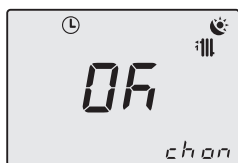

Fig. 2.21
Press key 17 briefly to save the values entered and upon leaving the menu, the display will indicate **OK** to confirm (Fig. 2.21).